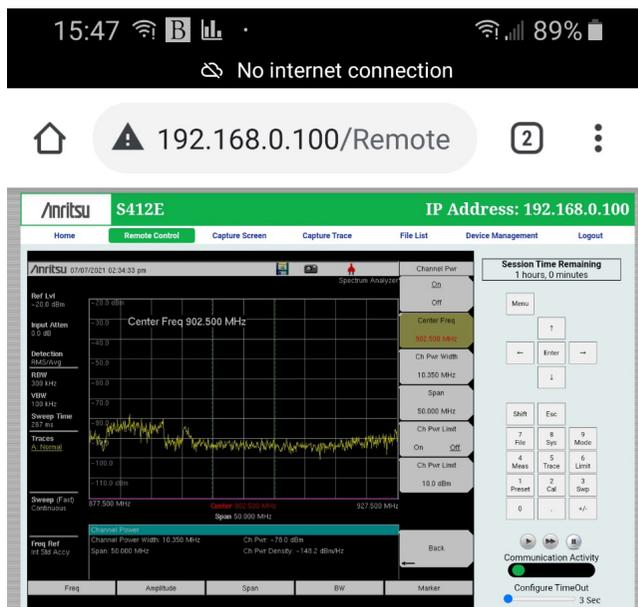

Figure 2-8. Remote Control Tab
3. Click “Login” at the bottom of the page. By default, there is no password required. After the login page, the user can navigate using the available tabs such as Home, Remote Control, Capture Screen, Capture Trace, File List, Device Management, and Logout. Figure 2-8 shows the Remote Control tab and the spectrum analyzer display with channel power measurements.